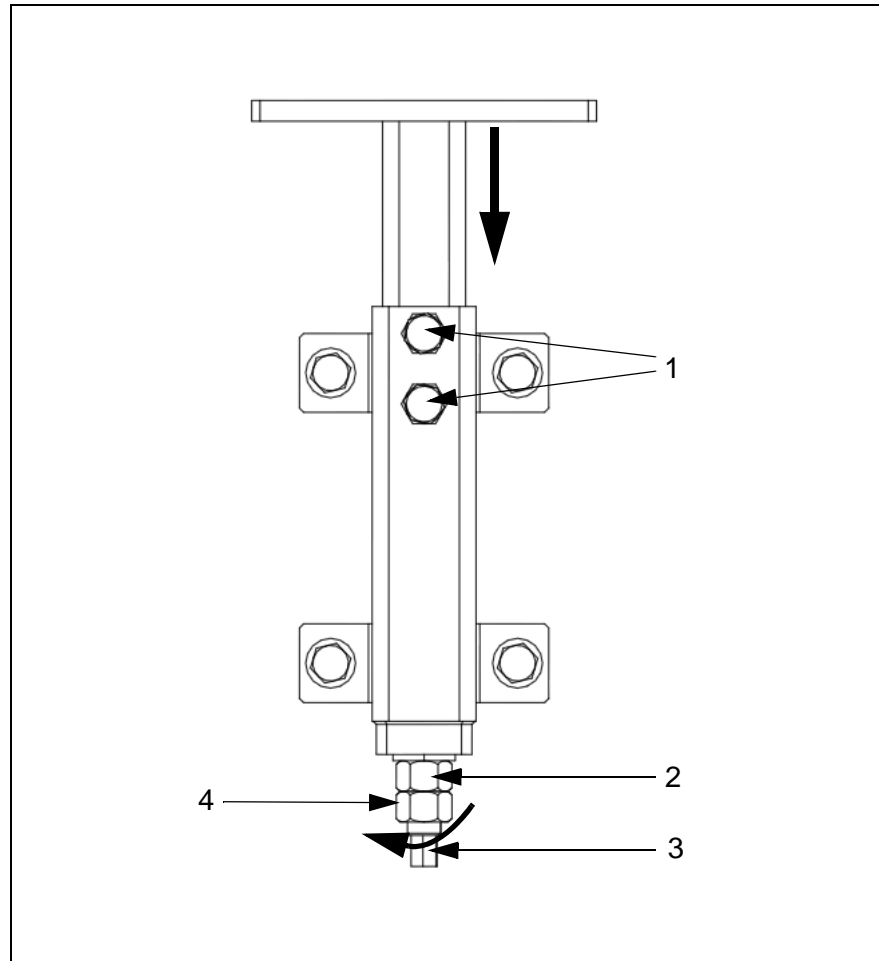

Fig. 13:
1. Thoroughly clean the external chute wall on the operator side above the tensioner. Affix Conveyor Products Warning Labels (Part No. 23395) close to the product where they can be seen by the system operator (also refer to Fig. 13 on page 28).